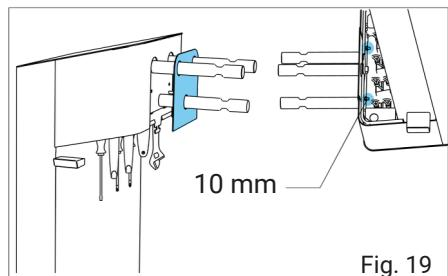
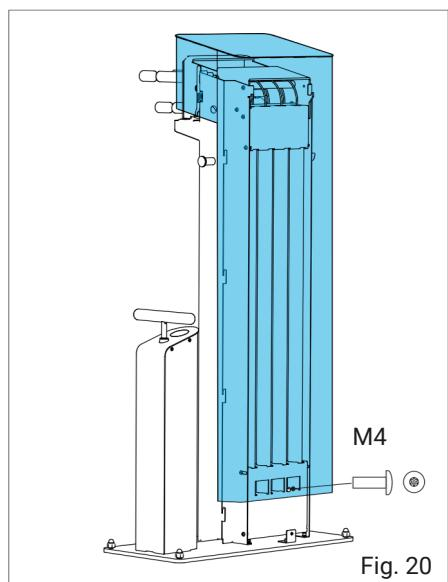

Fig. 19
Fig. 20
- 3 Now pull out the tool that needs replacing on the front side up to halfway and hook the steel cable into the retraction lock (8).
- 4 Then completely unscrew the four M6 raised head screws from the upper tube tray (23) on the rear side using a 4 mm Allen key (Fig. 19) and loosen the four M6 pan head screws from the lower tube tray (25) only slightly - do not unscrew completely! - (Fig. 20). Now tilt the guide unit and guide tubes (24) out of the inner corpus.